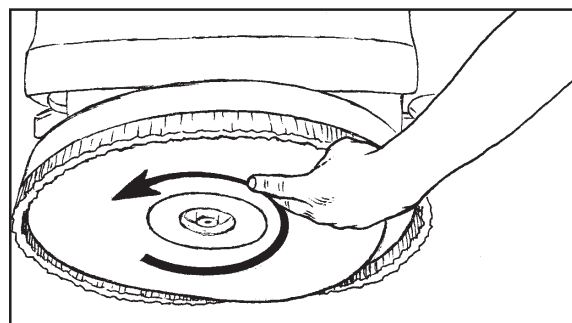

Figure 20
2. Raise the brush head by pressing and holding the brush up switch until brush head is in it's full up and rotated position (See Figure 20).
5. Push the brush up and rotate counter direction to scrub rotation, until lugs lock (See Figure 20).